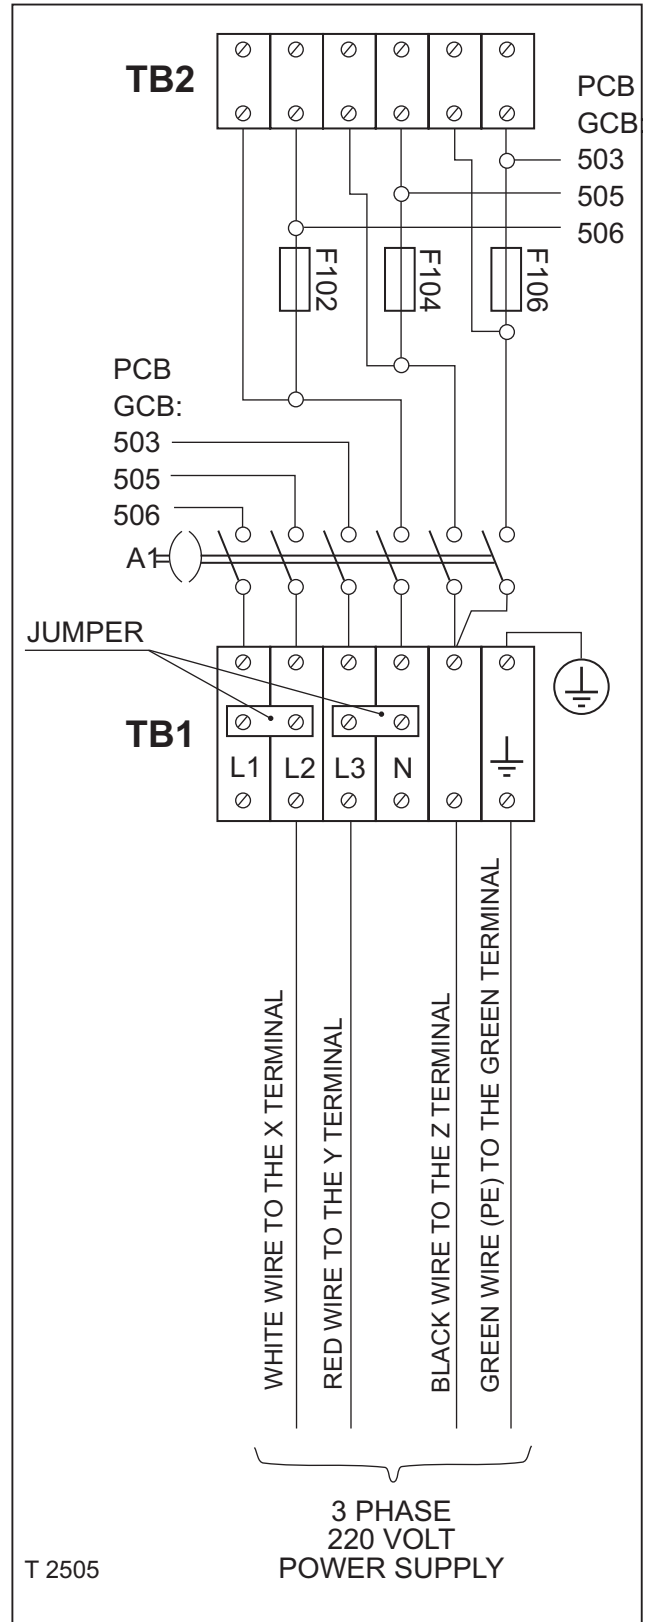

Fig. 2/7
- Place the jumpers on terminal block TB1 as shown in Fig. 2/7.